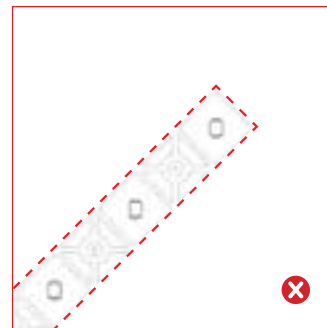

Figure 3
- Avoid using independent, diagonally cut strips (figure 3).